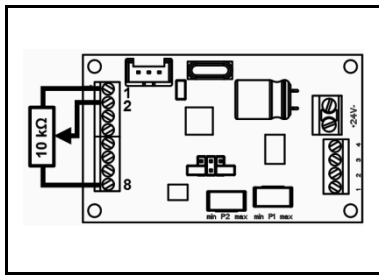

Fig. 10: External potentiometer
- ➔ Use an external potentiometer of 1kΩ to 10kΩ resistance. Connect the fixed terminals of the external potentiometer to COM 1 and COM 8. (see fig. 10)